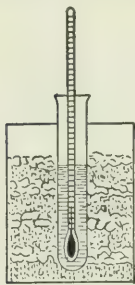

Fig. 48. Finding the freezing point of a solution.
**a. Freezing mixture.** Make a freezing mixture by filling a pint fruit jar, or a jar of about the same size, with a mixture of cracked ice and salt (about 3 to 1). Make a hole in the center so that a test tube may stand with its lower part surrounded by the freezing mixture (Fig. 48).